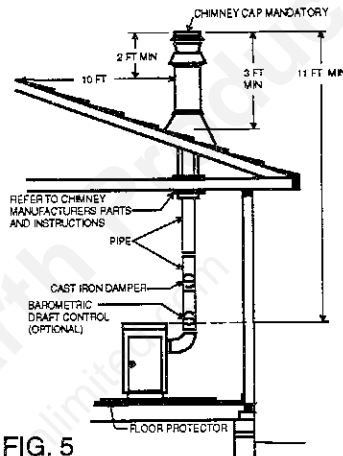

FIG. 5
1. The chimney connection should be as possible. The heater must have its own chimney. Do not connect this unit to a chimney flue, serving another appliance. If there is no chimney near where you wish to place the heater, you can use a UL 103HT Residential Type and Building Heating Appliance Chimney (Fig. 5 & 6).